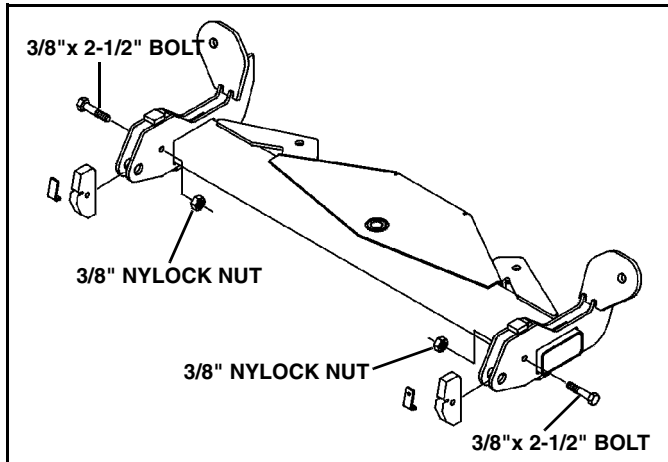

Figure 1-4
2. Place metal face plate into the blade stops slot, then place stops between the lugs on the swing frame. Secure with 3/8" x 2-1/2" bolts and locking nuts. (See Figure 1-4). Bolts and nuts are in the blade parts bag.